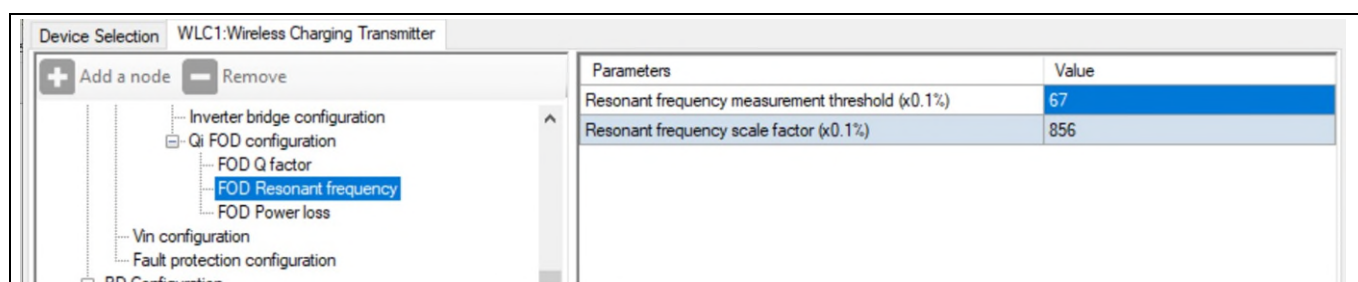

Figure 20 View of Q factor settings configuration tool
- Update the Wireless Charging Configuration Utility parameters in the respective field as shown in Figure 20.